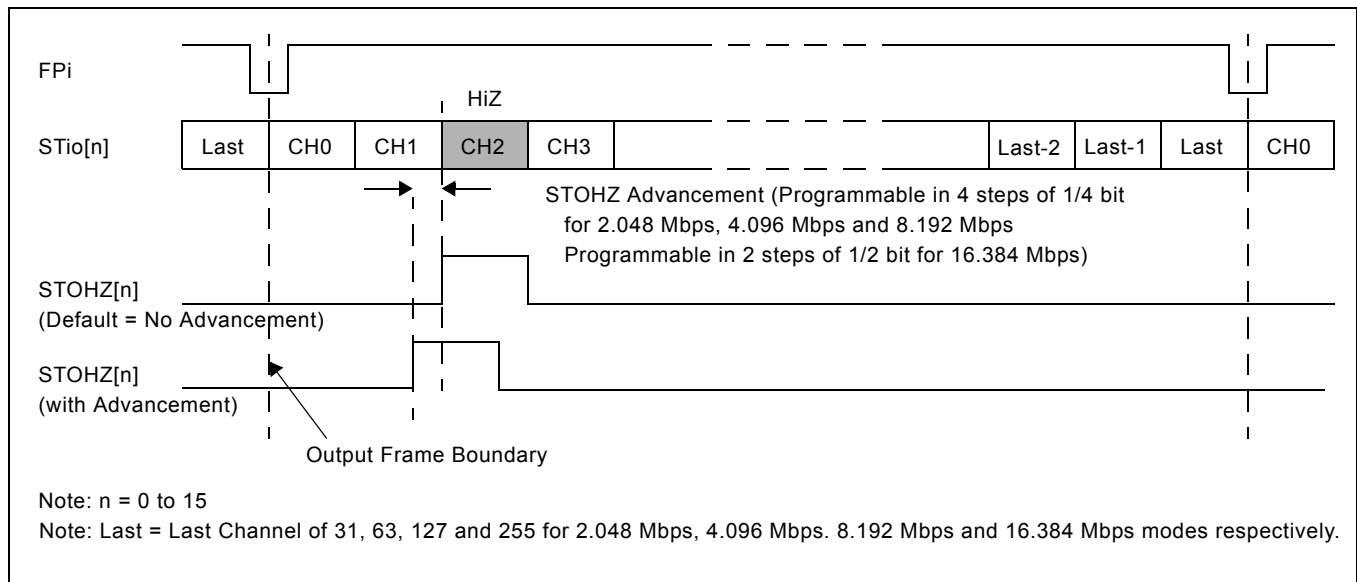

Figure 16 - Channel Switching External High Impedance Control Timing
There are 16 external high impedance control signals, STOHZ0 - 7, that are used to control the external drivers for per-channel high impedance operations. Only the first eight ST-BUS/GCI-Bus (STio0 - 7) outputs are provided with corresponding STOHZ signals. The STOHZ outputs deliver the appropriate number of control timeslot channels based on the output stream data rate. Each control timeslot lasts for one channel time. When the ODE pin is high and the OSB (bit 2) of the Control Register (CR) is also high, STOHZ0 - 7 are enabled. When the ODE pin, OSB (bit 2) of the Control Register (CR) or the $\overline{\text{RESET}}$ pin is low, STOHZ0 - 7 are driven high, together with all the ST-BUS/GCI-Bus outputs being tristated. Under normal operation, the corresponding STOHZ outputs of any unused ST-BUS/GCI-Bus channel (high impedance) are driven high. Refer to Figure 16 on page 27 for a diagrammatical explanation.